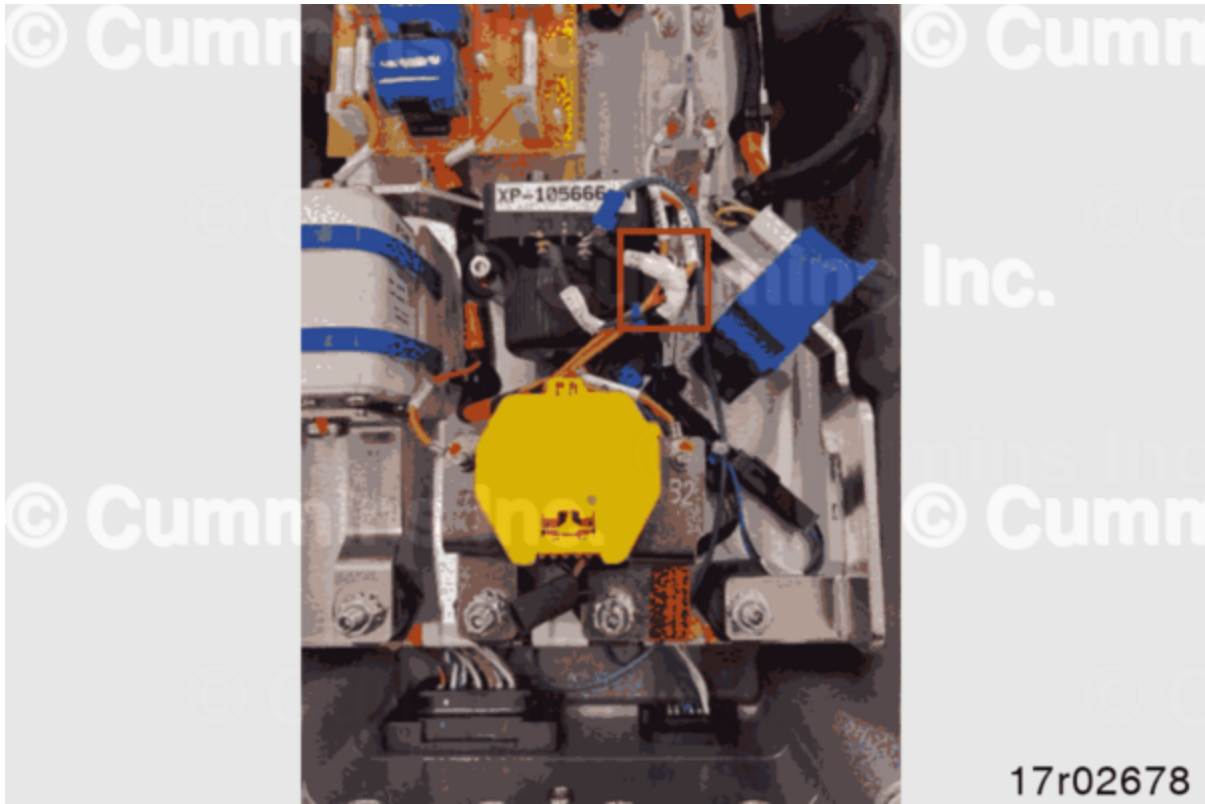

Figure 5, Electrical tape applied on contactor low voltage wiring harness
- Apply electrical tape to contactor low-voltage harness. See Figure 5.